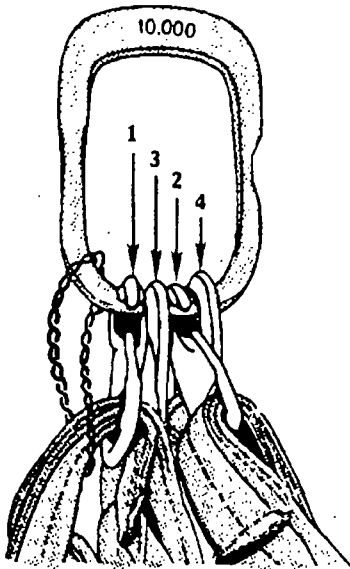

Figure 1-9. Legs Hooked in Sequence
Step 4 - Position one person on top of the load with the apex fitting. Legs are hooked to the apex in the following sequence: 1, 3, 2, and 4, to provide equal lift on all legs (Figure 1-9). Hooks do not have to face in the